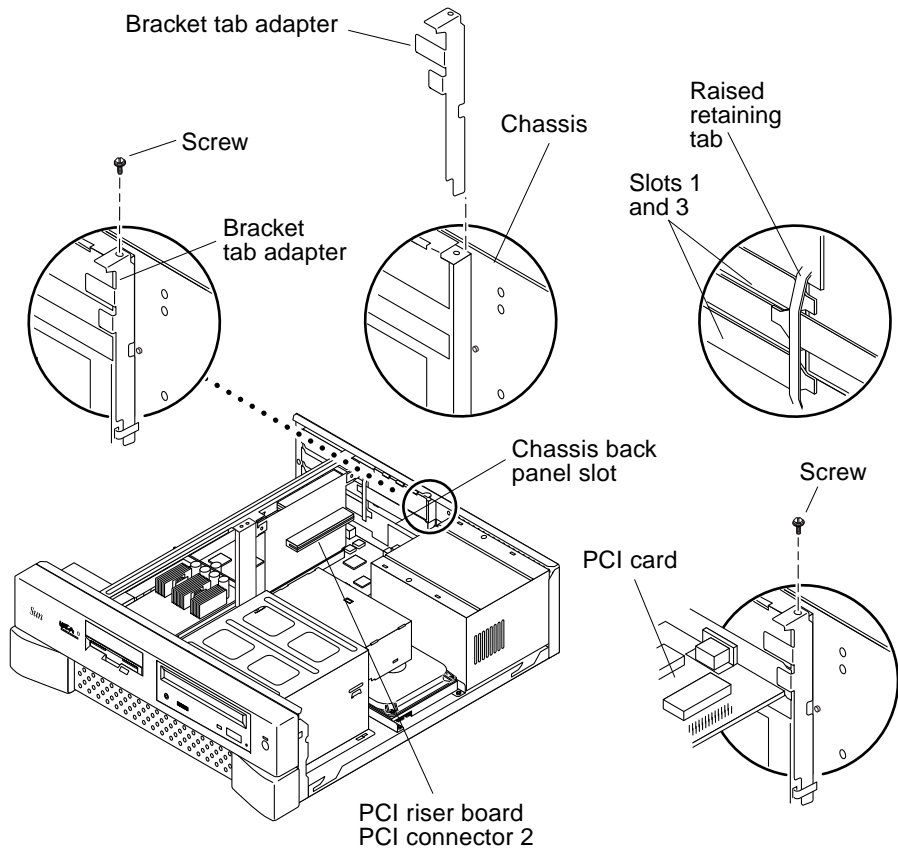

FIGURE 8-5 Removing and Replacing the PCI Card From PCI Slot 2
4. Remove the PCI card from slot 2 as follows (FIGURE 8-5):
Caution – The PCI card bracket tab end *must* be inserted under the raised retaining tab on the back of the system chassis (FIGURE 8-5).
3. **Replace the PCI card into PCI slot 2 as follows (FIGURE 8-5):**
Caution – The PCI card backplate end *must* be inserted *between* the card bracket tabs in slots 1 and 3 (opposite side of riser card) and the raised retaining tab on the back of the system chassis (FIGURE 8-5).